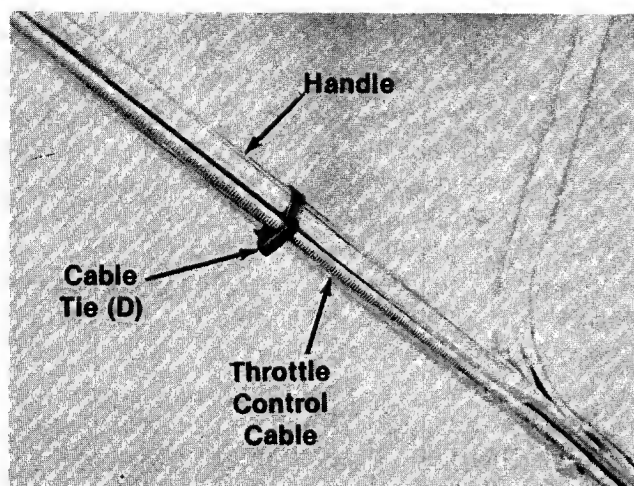

FIGURE 5.
7. Secure throttle control cable to upper and lower handles with cable ties (D) provided. See figure 5.